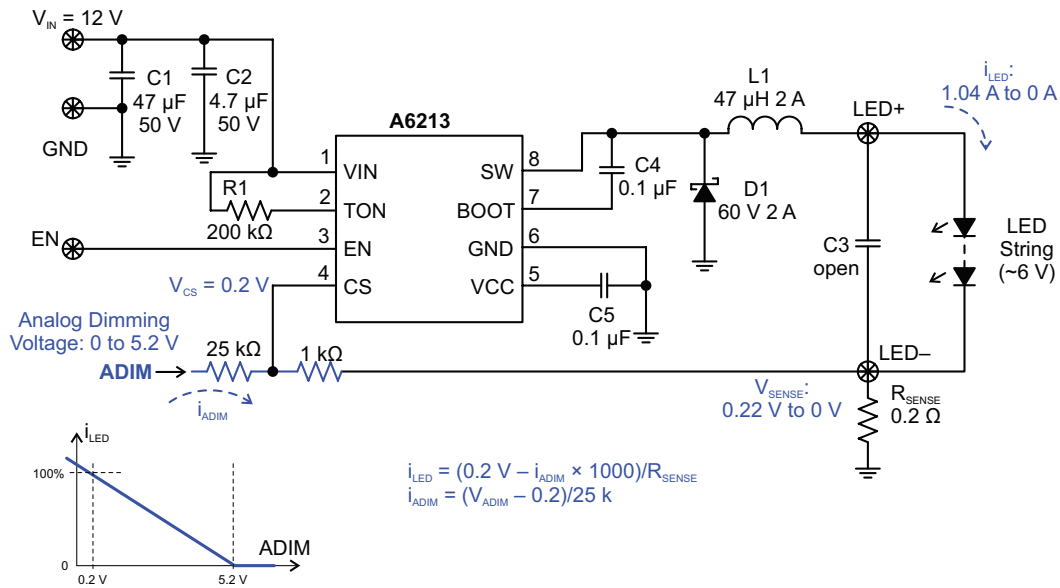

Figure 18: Analog Dimming of LED Current with an External DC Voltage
- Figure 18 shows analog dimming of LED current by an external DC voltage